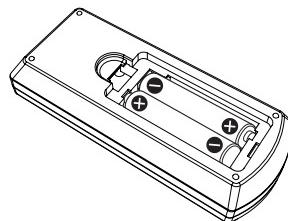

Fig. 2
- 2) Insert batteries and close the cover (Insert the "—" side first.). (Fig. 2)